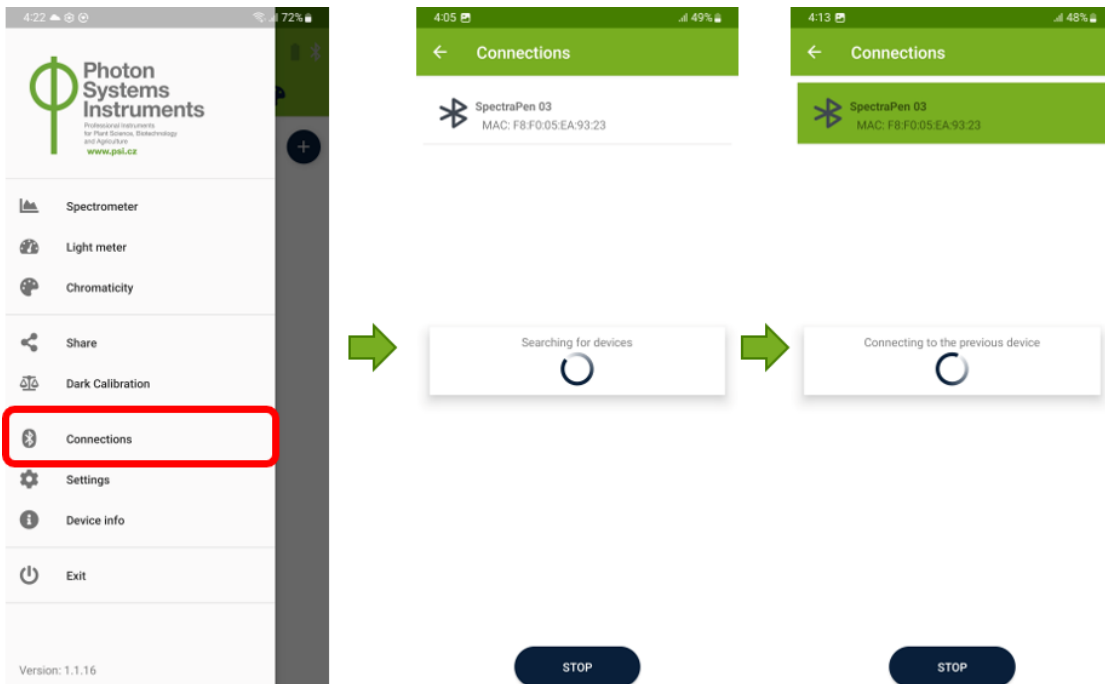
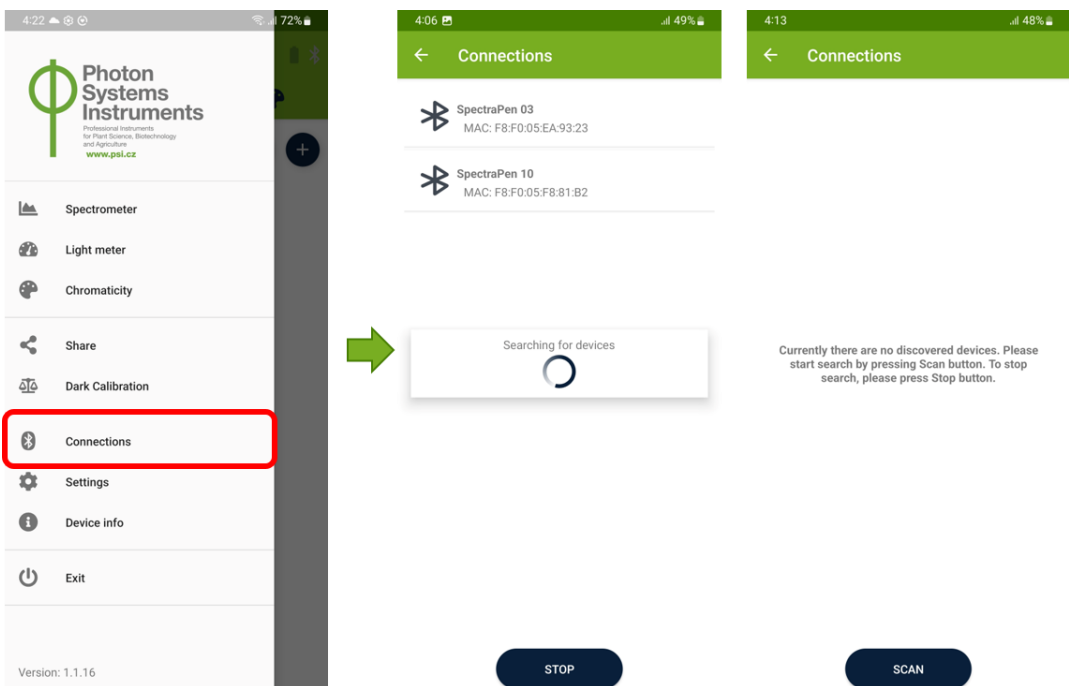

Fig. 2 Pairing of the SpectraPen mini with the mobile application.
Fig. 3 Multiple and/or no devices are visible in the application.
5. Open the **SpectraPen application** and navigate in the side bar menu to **Connections** (Fig. 2). The application automatically searches the available SpectraPen mini devices, select the required one (Fig. 3). Last two numbers in the name of searched devices correspond to the last two numbers of serial number placed on the bottom of the device. Once the SpectraPen mini device is paired with the application the Bluetooth mark in the right corner of the application window changes to green . If the device is not found (because, as a rule, Bluetooth and/or Location are not turned on in the phone), the application informs about it. If there are multiple active SpectraPens mini, all are listed in the app (Fig. 3).